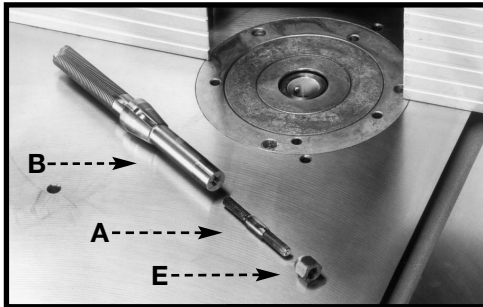

Fig. 8
1. Thread one end of the tie rod (A) Fig. 8 into the threaded hole in the bottom of the spindle (B).
3. Thread the nut (E) Figs. 8 and 11 on the bottom end of the tie rod (A).